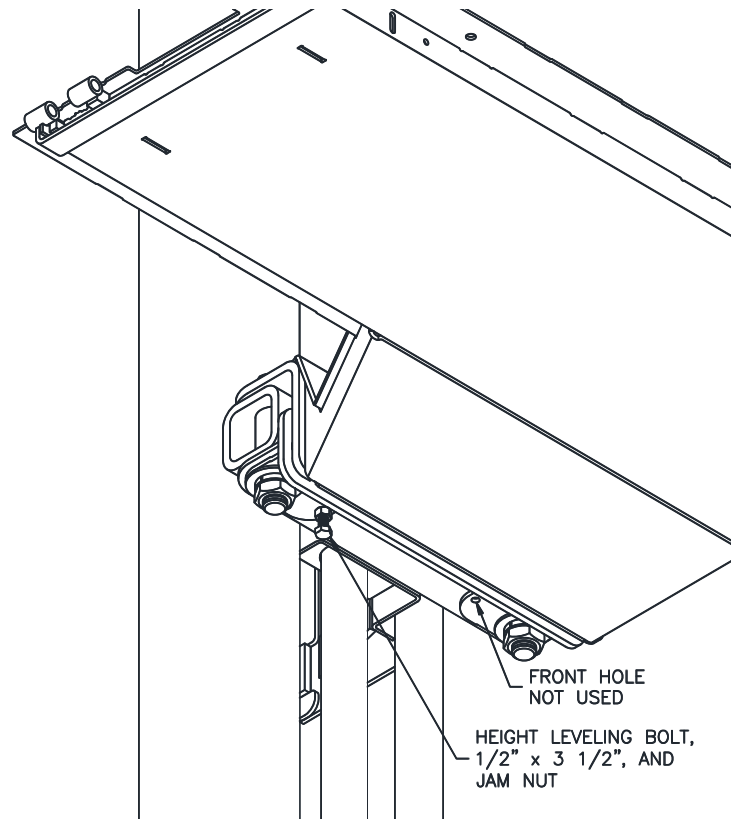

Fig. 7 INSTALLING THE HEIGHT LEVELING BOLTS
- Install one Height Leveling Bolt, 1/2" x 3 1/2" fully threaded bolt, at the rear of each Lower Clevis Plate, **Fig. 7**. Thread the bolt all the way up into the Carriage Cross Tube for now to keep it out of the way.